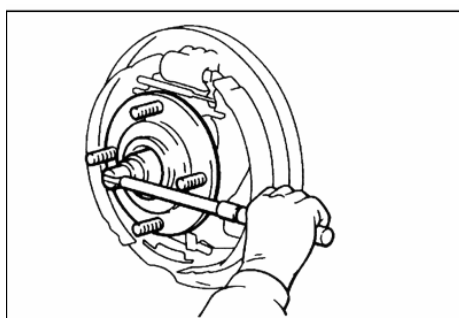

Fig. 13-6
(1) Lock nut removal (see Fig. 13-6)